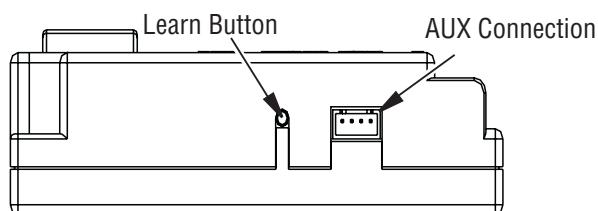

Figure 27 - Gas Module Left Side
1. There is a switch located on the right side of the module that reads REMOTE/OFF (Figure 27).
- To program the module (make sure the system has power), locate the learn button on left side as shown in **Figure 27, Page 16**. Press and release the learn button. There will be a beep sound from the module. Then press any button on the remote transmitter. Once the module's internal receiver accepts the transmitter code, there will be a series of confirming beeps.